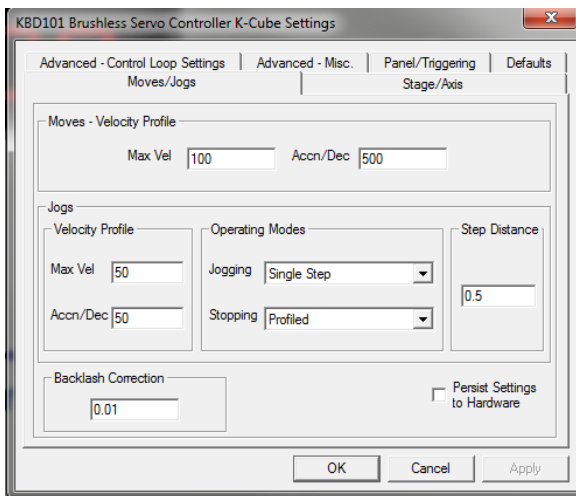

Fig. 5.5 Settings Panel - Move/Jogs Tab
- 2) Select the Move/Jogs tab as shown in Fig. 5.5.